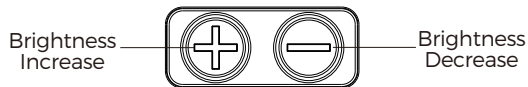

Fig 7
- 1. Switch ON:** Momentarily press either brightness button ("+" or "-") to turn on the sight. (See Fig 7)